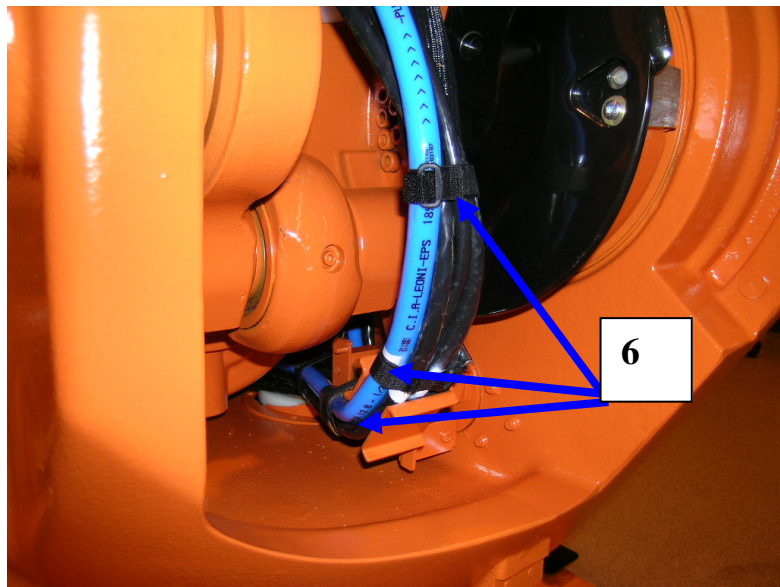

Figure 3
2. 2 Manipulator with internal Customer harness (MH)
Install the Velcro straps/item 6 at the attachment and 190 mm above according to figure 3 and 4.